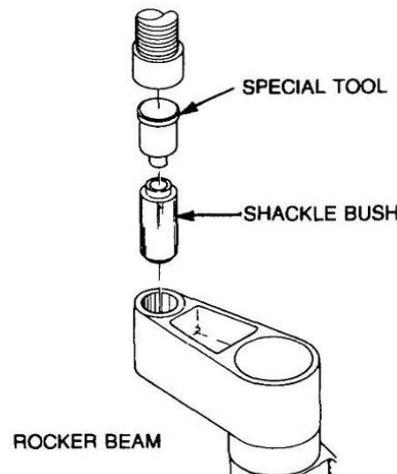

Figure 126 Replacement of the Rocker Beam Spring Bush
- c. Position special tool 18GA084 on the rocker beam spring bush (Figure 126). Ensure that the tool is correctly aligned and press the spring bush from the rocker beam.